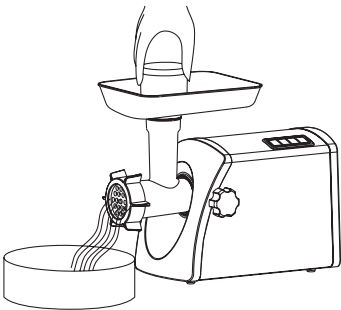

Figure 8.
3. Using the food pusher, feed food into the grinding head (fig. 8).